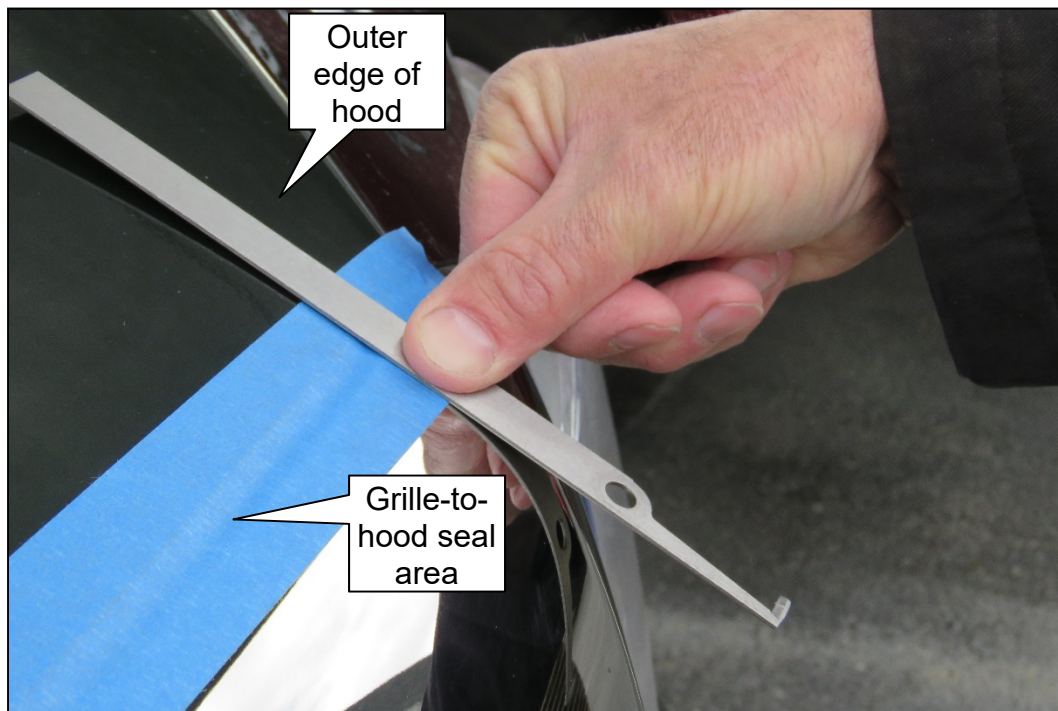

Figure 6
- g. Place a straight edge near the outer edges of the hood where tape was placed in Step 10. See Figure 6.
- h. In Figure 6, the grille is over flush with the hood. In this situation, apply finger pressure on the straight edge near the rear edge of the grille as shown. If the grille is under flush with the hood, apply finger pressure on the straight edge near the front edge of the hood.